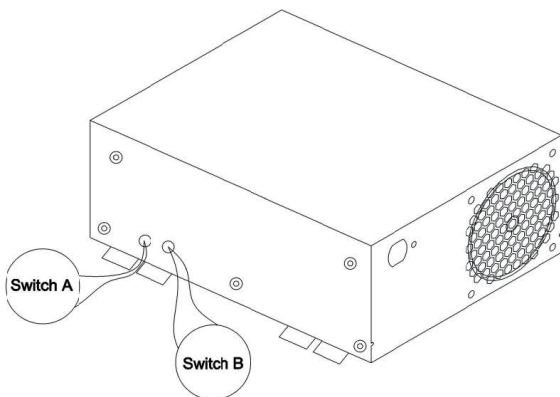

Figure 3
12. Switch A and Switch B: Switch A is a three-segment selector switch that selects Acid Mode/Fixed Output Mode/Lithium Mode from left to right. Switch B is an adjustable potentiometer that adjusts the 13.0V-16.5V output voltage range from clockwise in the fixed output mode state (switch B is not adjustable in acid mode/lithium mode). (Figure 3).